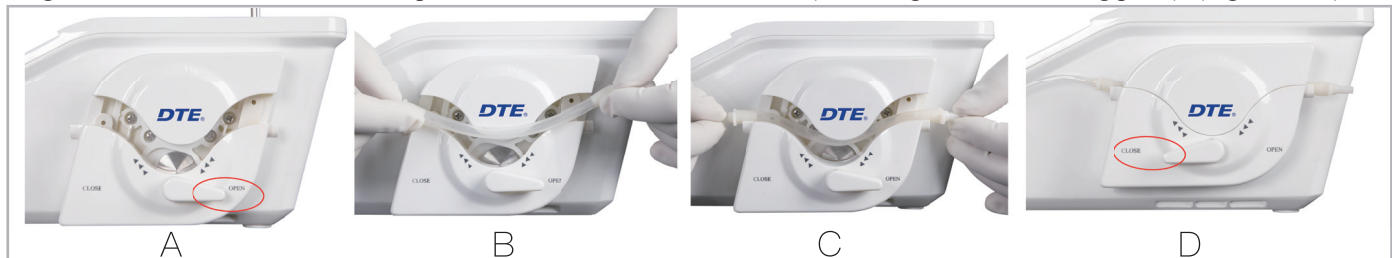

Figure 5
- A. Turn the peristaltic pump knob clockwise to the "OPEN" indicator and open the pump head (Figure 5-A).
- B. Place the tube in the impeller of the peristaltic pump (Figure 5 - B).
- C. Turn the peristaltic pump knob clockwise to the "CLOSE" position and close the pump head (Figure 5 - D).